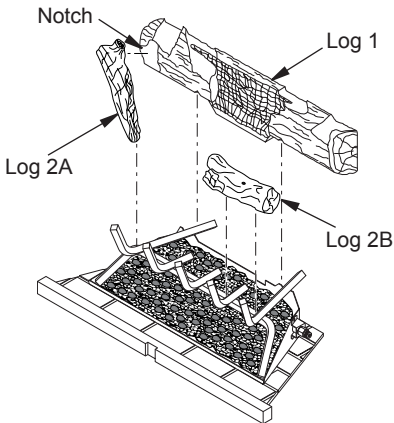

Figure 27 - Installing Logs 1, 2A and 2B
1. Place large back log (log 1) onto grate making sure notches rest over grate (see Figure 27).
2. Insert lower end of log 2A between the first two grate fingers and position the upper end into the notch on the front of log 1. See Figure 27. Place log 2B on the front right side of grate as shown in Figure 27.